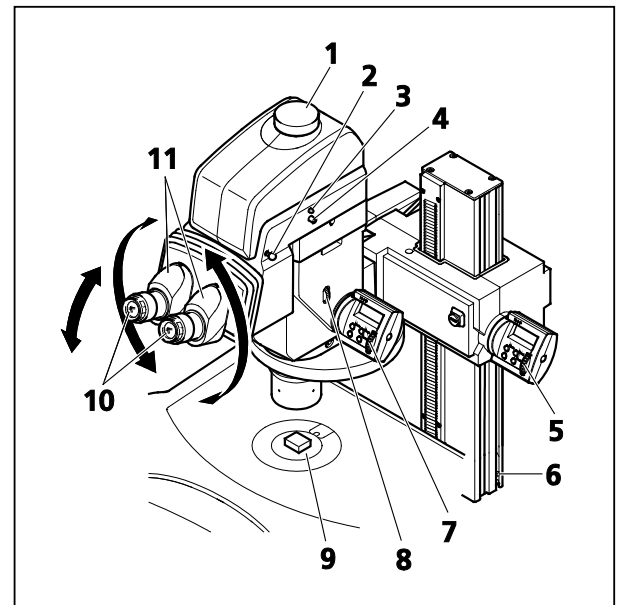
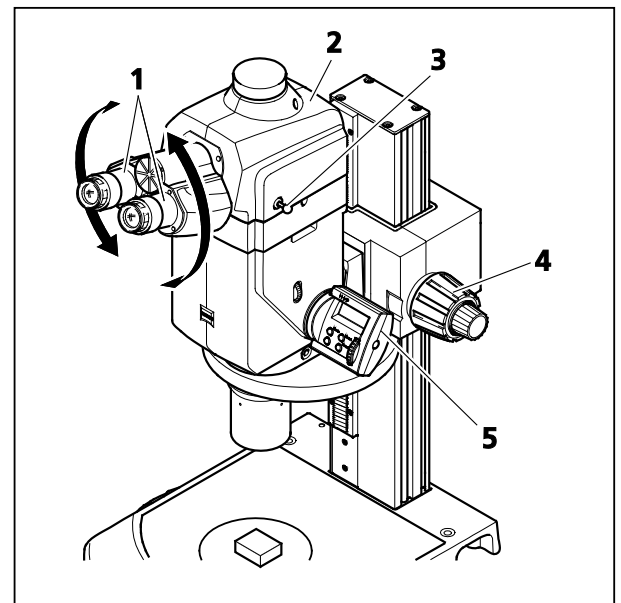

Fig. 30 Microscope, motorized focus
Fig. 31 Microscope, manual focus
-  Prior to operating the motorized focusing drive for the first time ensure that the lower mechanical end stop (Fig. 30/6) has been adjusted (see Section 4.6, page 44).
1. Place a specimen in the center of the round insert plate (Fig. 30/9). Switch on the illumination.
2. Ensure that the aperture diaphragm (Fig. 30/8) is completely open. To do this, briefly press or turn the knurled screw.
3. Adjust the diopter-setting ring on focusing eyepieces (Fig. 30/10) if known, otherwise set it to "0".
4. Adjust the interpupillary distance by turning the eyepiece sockets (Fig. 30/11) and Fig. 31/1), i.e. when looking into the eyepieces with both eyes only **one** unclipped circle of light (object field) should be visible.
5. Set the zoom (Fig. 30/7 or Fig. 31/5) first of all to the smallest level of magnification.
6. Focus on a prominent detail in the center of the specimen (Fig. 30/5 or Fig. 31/4).
7. Set the maximum zoom value (Fig. 30/7 or Fig. 31/5). Due to the magnification it is likely that the prominent detail is out of focus again and off-center.
8. Search for the detail by moving the specimen and precisely re-focus on it (Fig. 30/5 or Fig. 31/4).
If desired, connect a camera of your choice to the camera port (Fig. 30/1) of the ergo phototube or binocular phototube (Fig. 31/2). To switch over the light path, briefly push the control knob (Fig. 30/4) of the ergo phototube or pull out the push-pull rod (Fig. 31/3) of the phototube. The right light path is reflected 100% to the camera. On the ergo phototube this will be indicated by the blue control lamp (Fig. 30/3) lighting up.
A stereo effect in the eyepiece image can be obtained by pulling out the shutter slider (Fig. 30/2) on the ergo phototube.